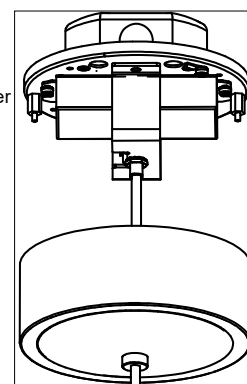

Figure 4: Base Mounting [2/2]
7. Reattached canopy cover by turning lock screw clockwise while pressing canopy cover firmly to base. [Figure 4 and 5]